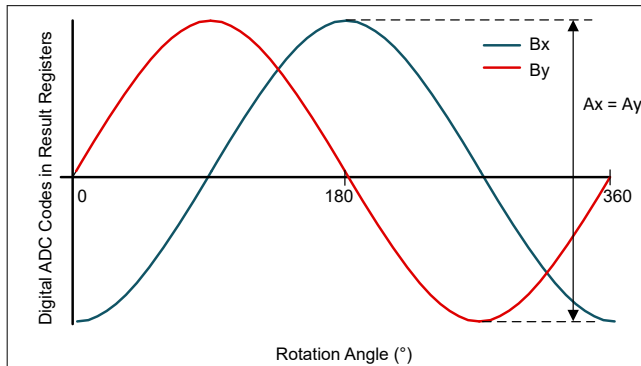

图 7-6. X and Y Sensor Data for Full 360 Degree Rotation for On-Axis Measurement
3. Measure the maximum peak-peak ADC code delta for each axis, A_x and A_y , as shown in 图 7-6 or 图 7-7.